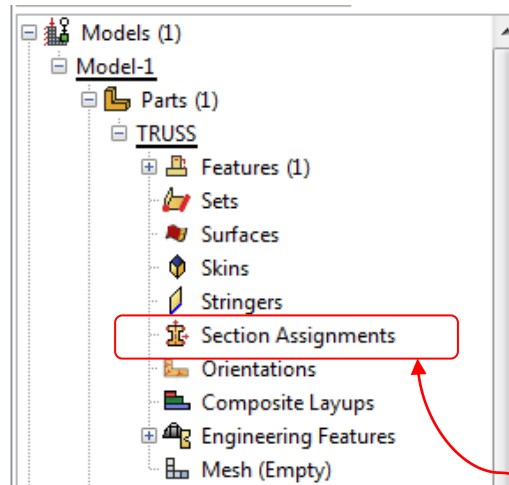

Figure 9. Model Tree Expansion (Parts)
- Now that the truss sections have been created, they can be assigned to the geometry. In the model tree, click the + to the left of the Parts icon, this will further expand the model tree's options. Next, click the + to the left of the part called **TRUSS**, further expanding the model tree (Figure 9).